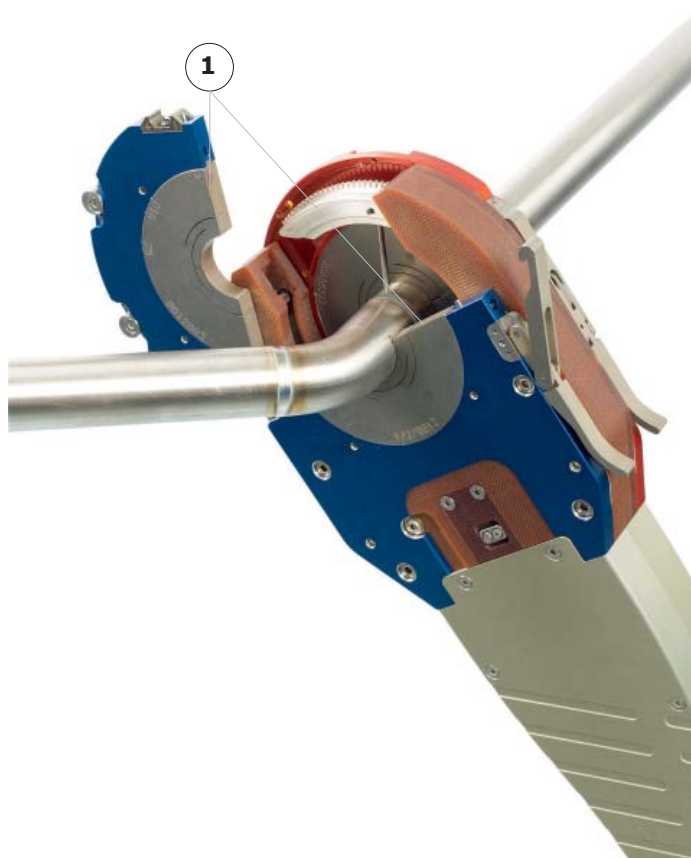

Fig.3.5 - Set of clamping shells
- The set of clamping shells in TCI™ titanium (Fig.3.5 - 1) are available for all tube outside diameters. A set of shells is made up of 2 pairs of shells identified by different letters. The shells are marked with the outside diameter of the tube to which they relate.